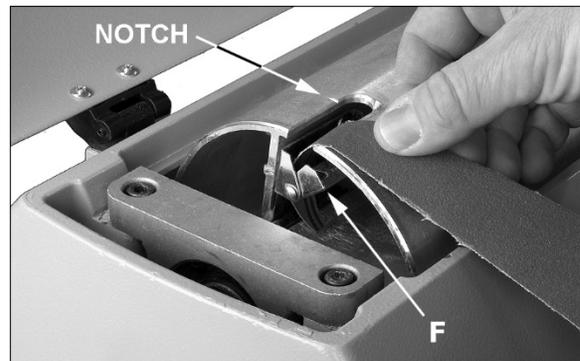

Figure 5
- Press fastener lever (F, Figure 5) on outboard (left) end of drum, and insert tapered end of abrasive through slit in fastener, as shown. Align tapered edge of abrasive strip with left edge of drum. Insert enough strip so that the right edge aligns with the reference notch; this will ensure the proper length of strip to be secured at the opposite end of the drum.